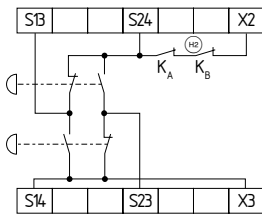

Fig. 5
**Two-hand control to DIN EN 574 and EN 60204-1 (see Fig. 5)**